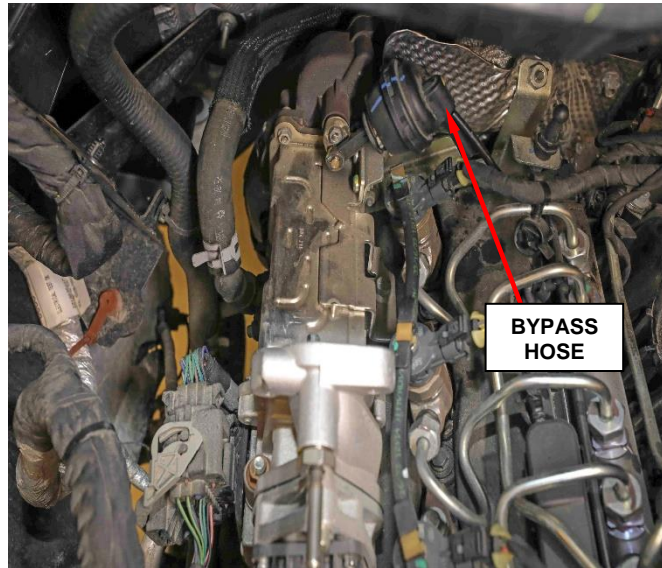

Figure 38 – Vacuum Bypass Hose
14. Disconnect the EGR cooler vacuum bypass hose (Figure 38).